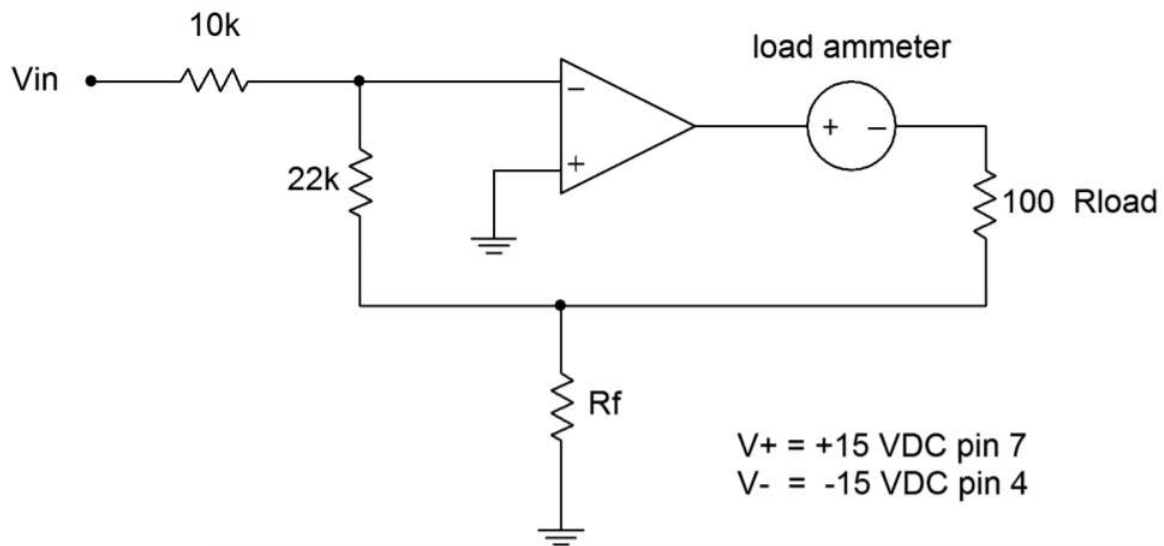

Figure 7.5.2
7. The gain of the current amplifier can be determined from R_i and R_f . Based on these values, calculate the expected A_i and I_{load} for the circuit of Figure 7.5.2, and record them in Table 7.7.3.
8. Assemble the circuit of Figure 7.5.2 using $22\text{k}\ \Omega$ for R_f .
12. Utilizing the circuit of Figure 7.5.2, suppose that all of the results found in Table 7.7.3 are approximately 10 times smaller than they should be. Consider and test at least two plausible causes for this scenario, and include the results in the technical report.
3. What is the effect as R_f is decreased in the circuit of Figure 7.5.2?